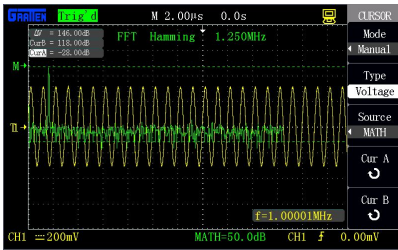

Figure 2-20 Cursor measurement of spectrum amplitude
- 12) The value of Delta V on the screen is the amplitude of the FFT waveform, as shown in figure 2-20.